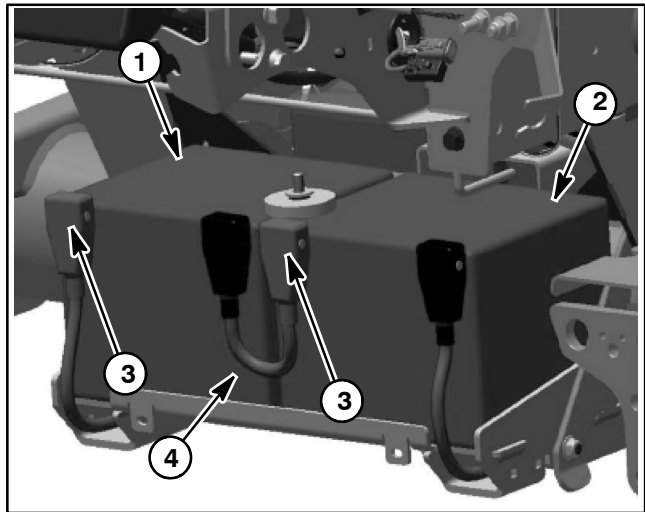

Figure 89
6. Install all of the battery cables except the battery jumper cable (item 16). Make sure that cables are connected to correct battery terminal noting battery polarity as shown in Figures 89 and 90. Torque nuts on battery cable clamps from **50 to 70 in-lb (5.7 to 7.9 N-m)**.
7. Carefully install battery jumper cable (item 16) to front batteries. Do not allow tools or vehicle components to complete the battery circuit during cable installation. Torque nuts on battery jumper cable clamps from **50 to 70 in-lb (5.7 to 7.9 N-m)**.